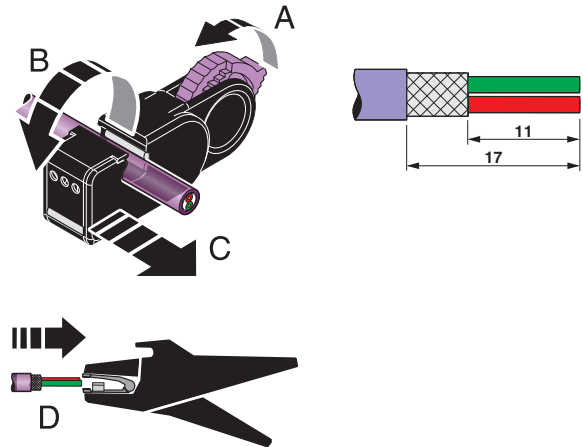

Figure 28 Stripping
- Strip off the conductors (see Figure 28).